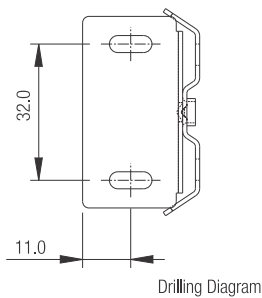

Fig. 1.
2. Drill as per drilling diagram Fig.1.